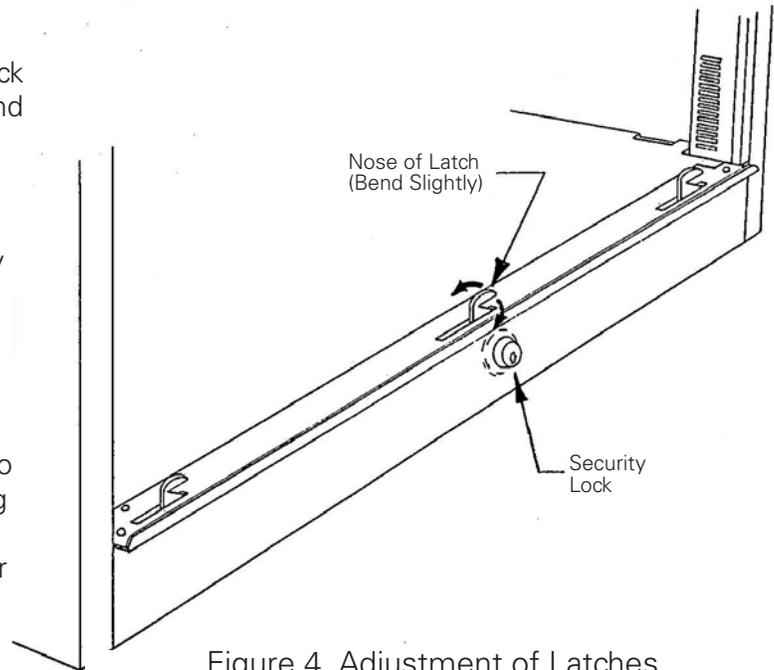

Figure 4. Adjustment of Latches
6. Carefully stand the cabinet upright and check to see if any components will obstruct the closing of the tambour. Then close the tambour and check the locking mechanism with the tambour handle. If necessary, the nose of each latch may be bent slightly for better adjustment. (See Figure 4)